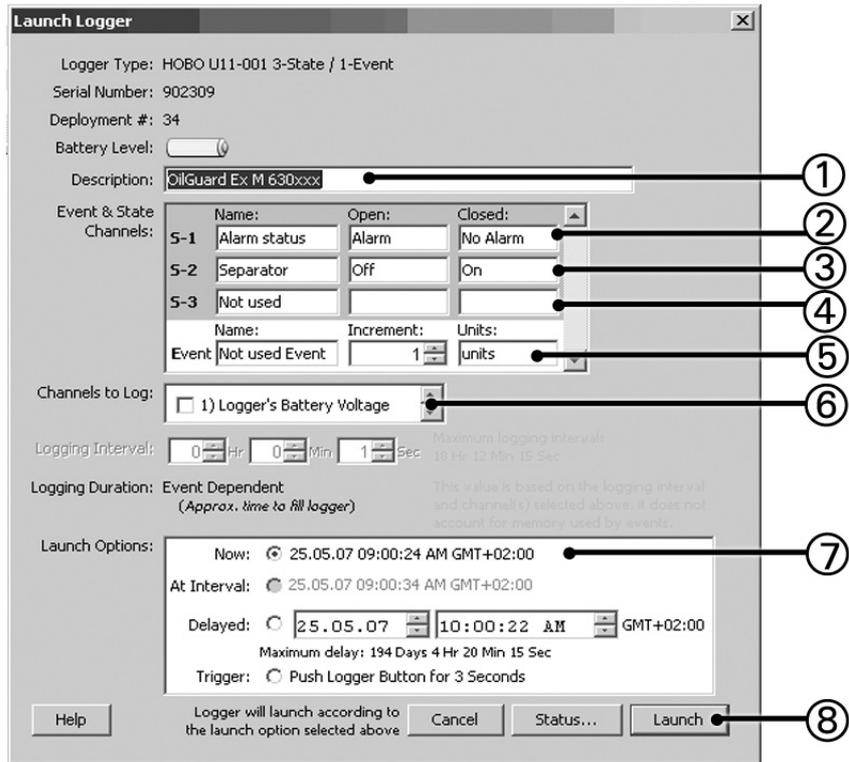

Figure 12 : Check data logger data (HOBOWare)
<p>3. Check the entries in the entry window.</p> <p>i The entries must correspond to those in → Figure 12. If not, they should be changed or completed as required.</p>	→ Figure 12
<p>4. To start up the software, click the button (8).</p>	→ Figure 12
Positions in Figure 12